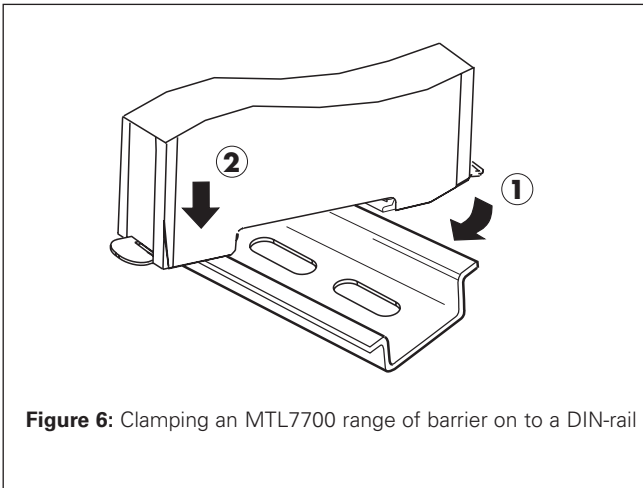

Figure 6: Clamping an MTL7700 range of barrier on to a DIN-rail
- a) Hook the hazardous-area end of the mounting/earthing clamp over the hazardous-area flange of the DIN-rail (figure 6).